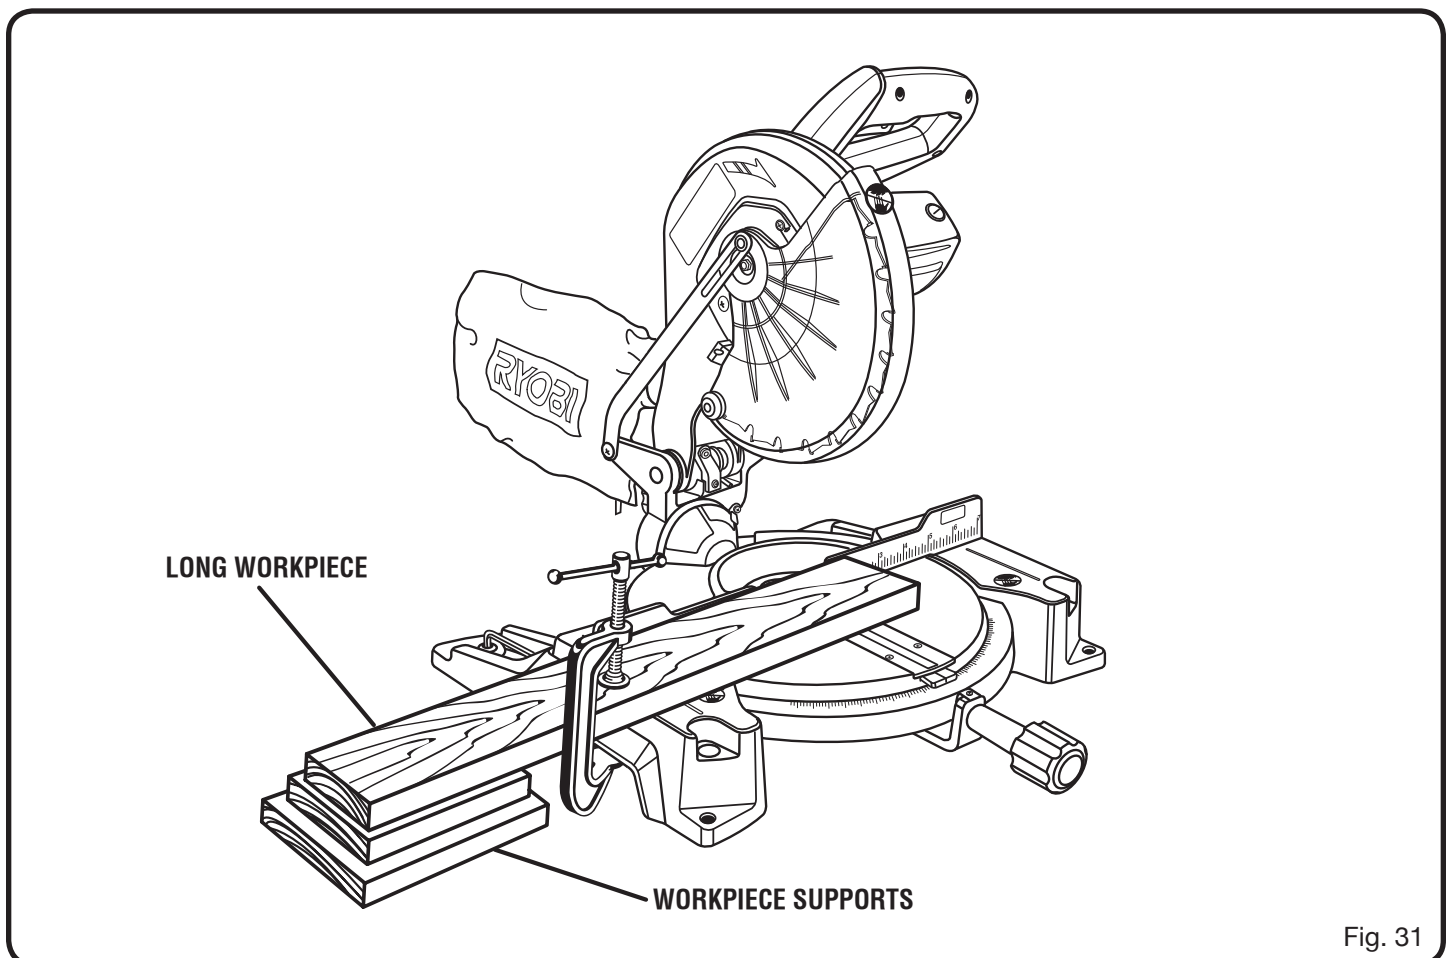

Fig. 31
- When cutting long pieces of lumber or molding, support the opposite end of the stock with a roller stand or with a work surface level with the miter table. *See Figure 31.*
See Figure 31.